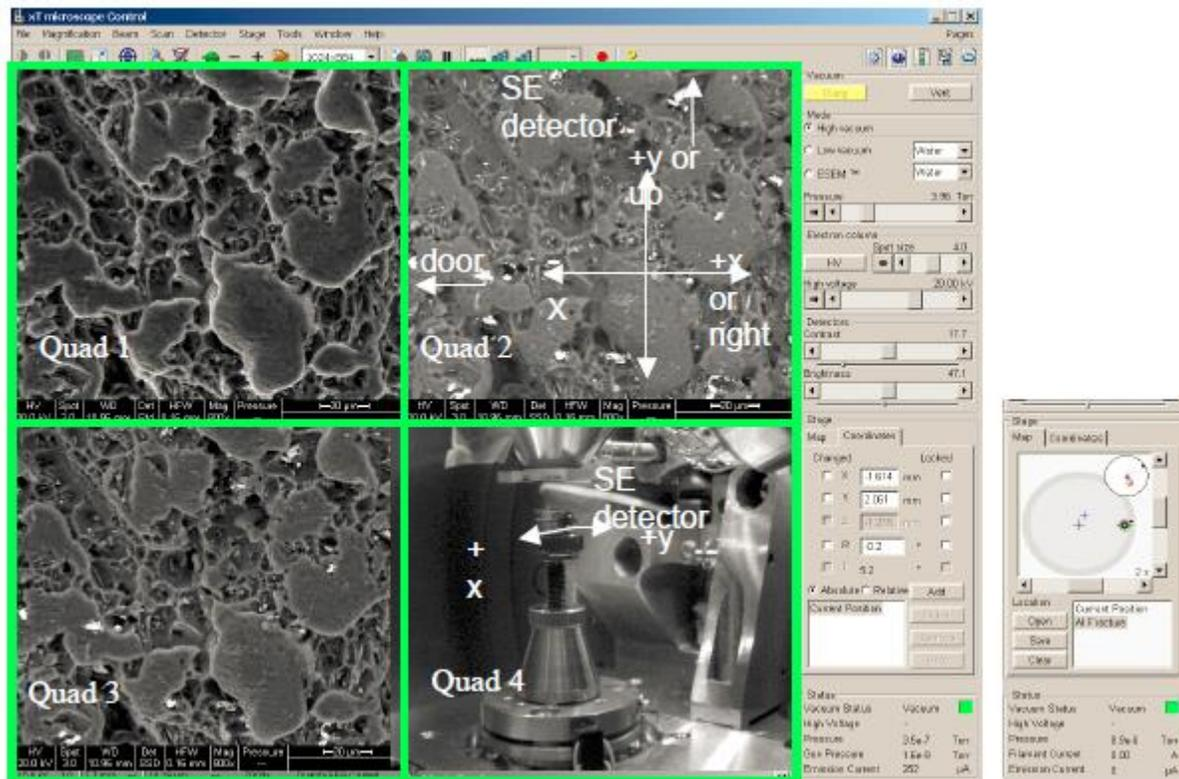

Fig. 4 Stage Orientation and Axes.
10. An area of interest can be moved to the center by locating the mouse pointer over it and double-clicking. To move the sample, the arrow keys, the center scroll button, the stage console, or the x, y and z knobs on the SEM chamber door can also be used (see Fig. 4 for stage orientation and axes).